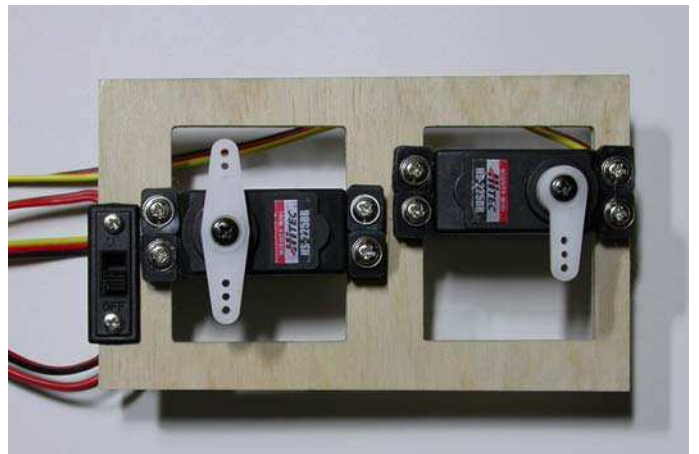

Fig.89: Mount the horns on the servos.
- Mount the single arm horn on the servo "SEPC" for the tailplanes and the double arm horn on the servo "SEDR" for the rudder (see figure 89);